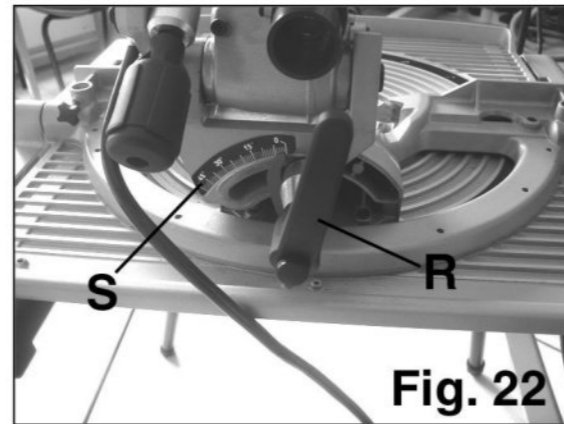

Fig. 22
1. Thanks to the lock lever (R) **Fig.22**, you may adjust the angle of the saw head from 0° to 45° to the left. To tilt the saw head to the desired angle, turn the locking lever a quarter turn clockwise, tilt the saw head until you get the desired cutting angle, using the scale (S) **Fig.22**, then tighten the locking lever by turning it a quarter turn in the counterclockwise direction.